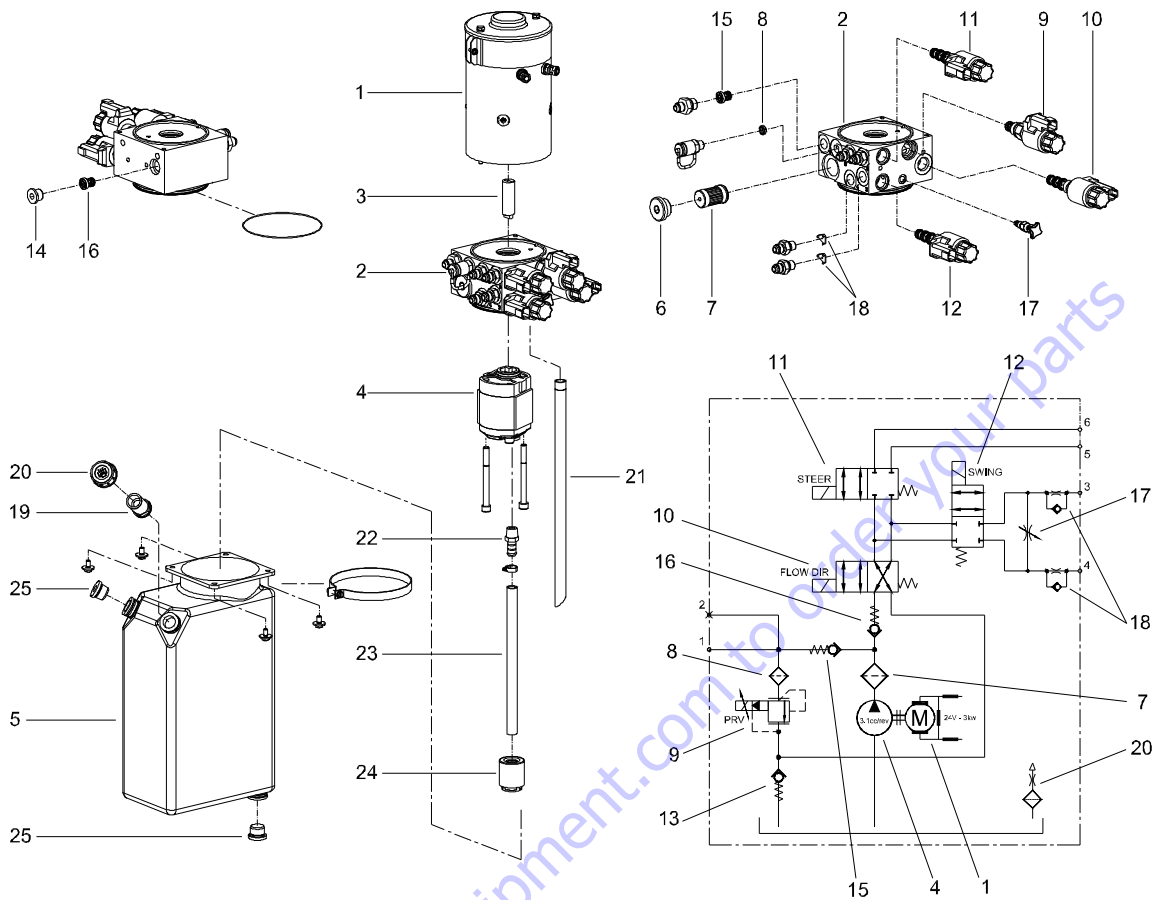

Figure 7-5. Hydraulic Power Unit
This two stage spool type proportional relief valve (9) (Refer to Figure 7-5.) is controlled by a PWM signal delivered by the master controller. As a function of the electrical control signal, the pressure relief value changes. When
This 4-Way, 2-Position Solenoid Valve (10) (Refer to Figure 7-5.) allows flow direction change for Steering and Swinging movements.
This 4-Way, 2-Position Solenoid Valve (11) (Refer to Figure 7-5.) is supplied each time a Steering movement is controlled.
This 4-Way, 2-Position Solenoid Valve (12) (Refer to Figure 7-5.) is supplied each time a Swing movement is controlled.
This Needle Valve (17) (Refer to Figure 7-5.) allows swing motor by-passing for manual swinging operation. In normal operation, this valve must be closed (fully screwed in).